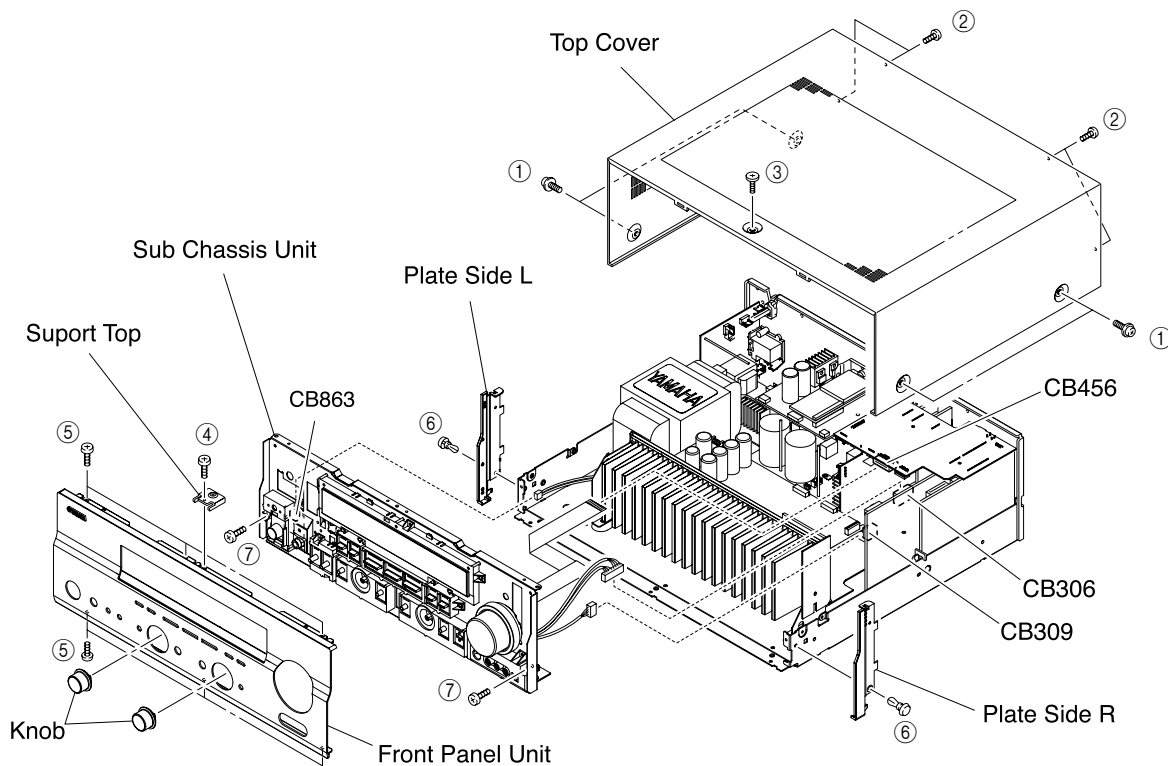

Fig. 1
- Remove 4 screws (①), 4 screws (②) and 1 screws (③). (Fig. 1)
- Slide the Top Cover rearward to remove it. (Fig. 1)
- Remove 2 Knobs. (Fig. 1)
- Remove 1 screw (④) and then remove the Support Top. (Fig. 1)
- Remove 6 screws (⑤) and then remove the Front Panel Unit. (Fig. 1)
- Remove 2 push rivets (⑥). (Fig. 1)
- Remove the Plate Side L/R. (Fig. 1)
- Remove 2 screws (⑦) and then slide the Sub Chassis Unit forward. (Fig. 1)
- Remove CB306, CB309, CB456 and CB863 and then remove the Sub Chassis Unit. (Fig. 1)